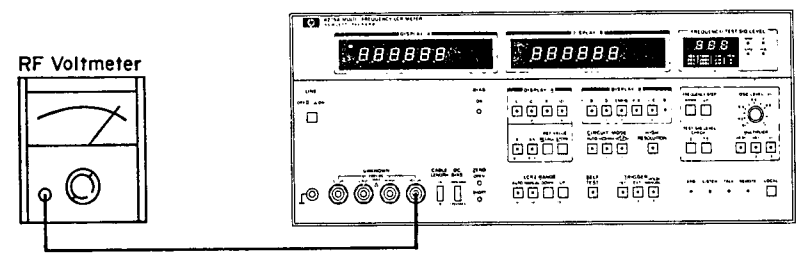

Figure 4-2. Test Signal Level Variable Range Test Setup.
1. Connect BNC to BNC cable to 4275A UNKNOWN H\_CUR terminal and to RF voltmeter input as shown in Figure 4-2.